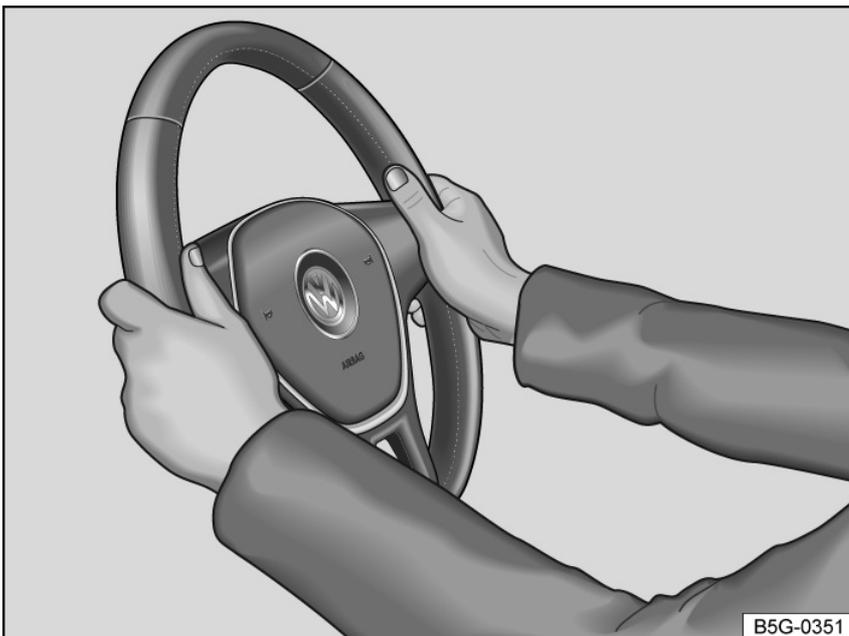

Fig. 73 On the steering wheel: nine o'clock and three o'clock position.
- Adjust the steering wheel so that it can be firmly held at the outer edge with both hands at the *nine o'clock and three o'clock position* fig. 73.
and three o'clock position fig. 73.